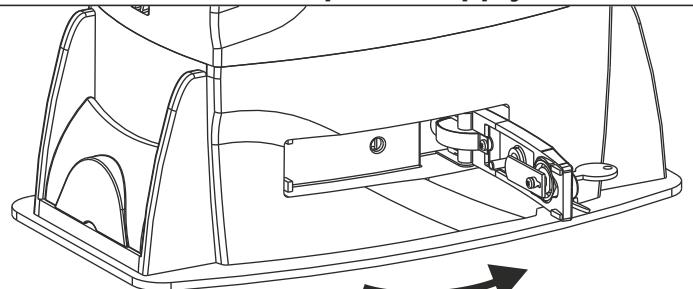

Fig. 27
- Pull the release lever until it stops, about 90° approximately (Fig. 27)